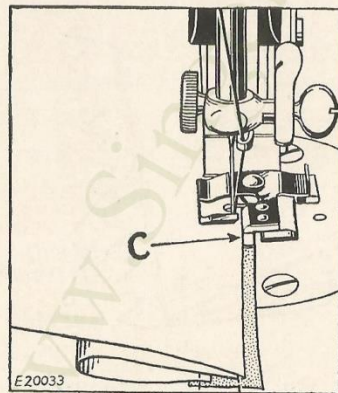
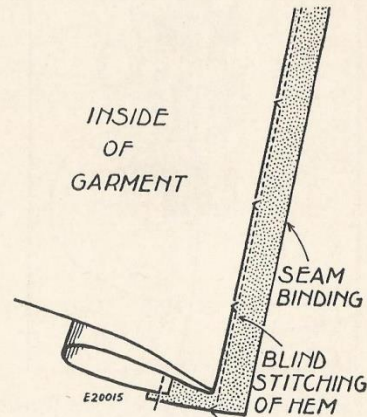

FIG. 246. INVISIBLE HEM WITH SEAM BINDING BEING BLIND STITCHED
FIG. 247. BLIND STITCHING COMPLETED
- e—Place the bound edge under the attachment with the **fold** against the guide (C), as shown in Fig. 246. (Adjust guide (C) according to the material to be blind stitched, as instructed on Page 150. Then lower the presser bar and commence sewing, carefully guiding the fold of the garment against the guide (C) so that the straight stitching will be made **only** in the seam binding and not the tacking or sidewise stitches will be made in the fold of the garment, as shown in Fig. 247.